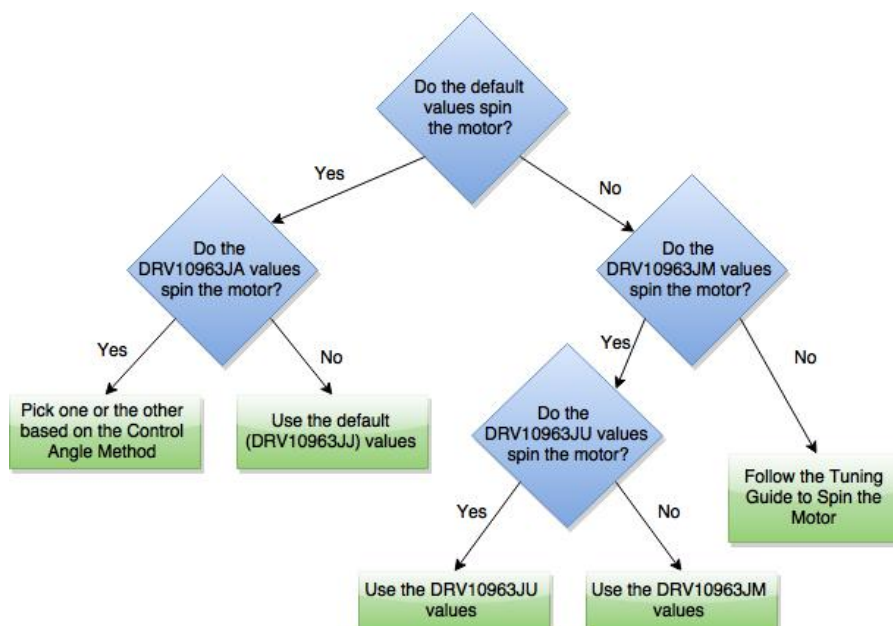

Figure 9. Initial Tuning Flow Chart
- If only one of the preloaded configurations spins the motor, then obviously that is the part number to order to control the motor. However, if two or more spin the motor, then refer to Figure 9.